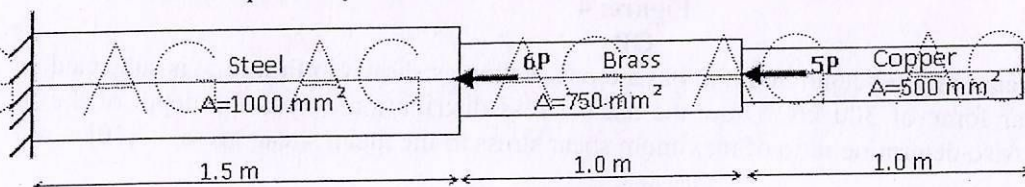

Figure: 1
- b) A stepped bar is subjected to axial forces as shown in Figure 1. Determine the safe value of 'P', if normal stresses in steel, brass and copper are limited to 180 MPa, 100 MPa and 120 MPa respectively. Also find the corresponding elongation of the bar. [4+6]